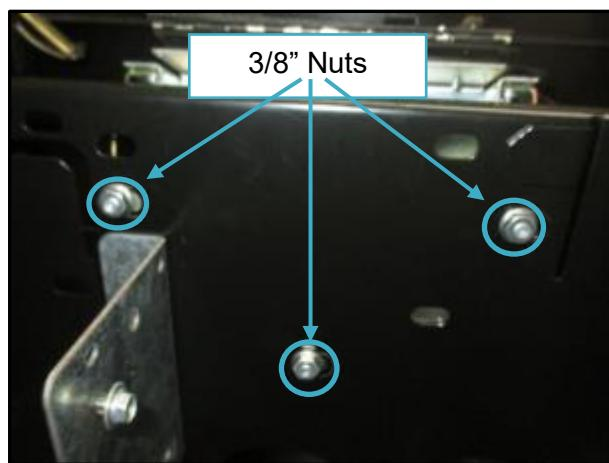

Fig. 1.20 – Remove three nuts underneath printer
- 2) Using a 3/8" socket and ratchet, remove the three printer nuts from the underside of the printer. (Fig. 1.20)